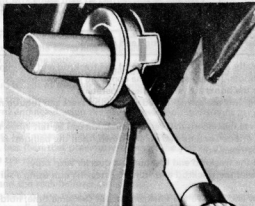

Fig. 11.24. Prising out the lower steering column bearing (Sec. 21)
- 10 The lower ball bearing assembly can be prised out of the plastic retainer in the steering column. Ensure that the inner and outer bearing tracks are removed together (See Fig. 11.24). The shaft can now be withdrawn.